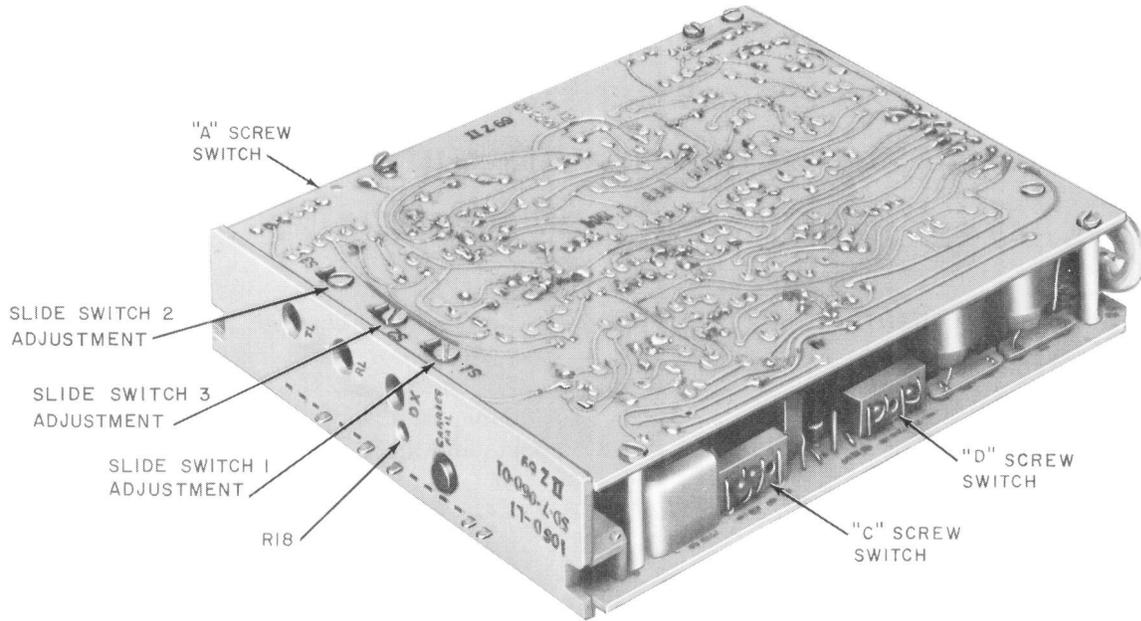

Fig. 1—Data Set 108D-Type
1.02 The multiple arrangement using data set 108D or E (Fig. 1 and 2, respectively) consists of eight data sets per data mounting, a 28A1 data mounting, one 27B1 data unit per data mounting (one for eight data sets), and KS-20575 rectifier or an appropriate power source.
2.02 Faceplate-indicated option selection on the 108D and E is made by means of slide or rotary switches as shown in Table A. Table A also provides option designation, function of option, and faceplate designation. Installation of options on the data set is made in accordance with specifications on the service order or circuit layout record. See Fig. 1 and 2 for location of switches on data set 108D and E, respectively.